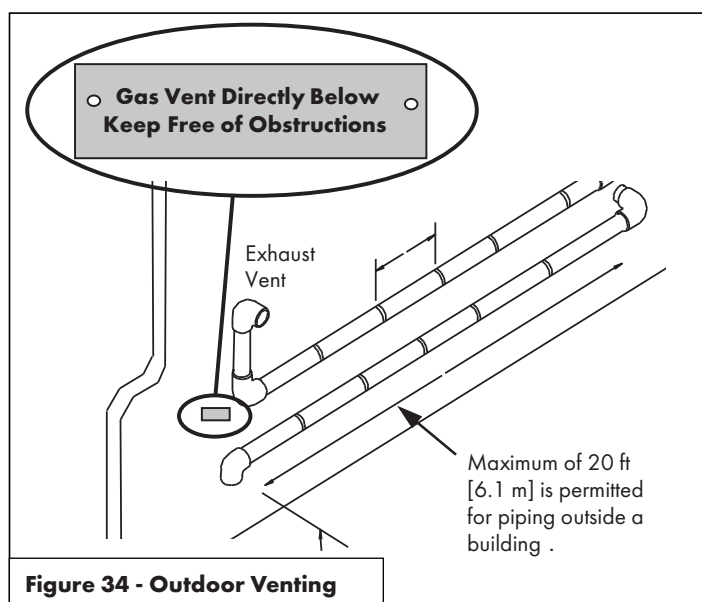

**Figure 33 - Venting Below Grade**
- Excavate the site to a point where the pipes are to exit as shown in Figure 33.